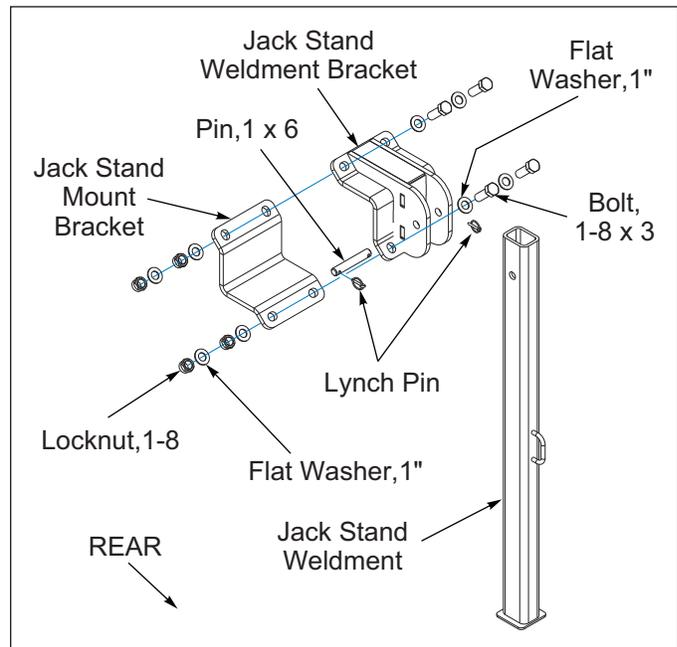

Figure 3-2: Rear Jack Stand
1. With the Jack Stand Mount Bracket positioned on the bottom side of the rear Frame, attach the Jack Stand Weldment Bracket (with the clamp facing out rear-ward), using 1-8 x 3 Bolts, 1" Flat Washers and 1-8 Locknuts. **See Figure 3-2.**